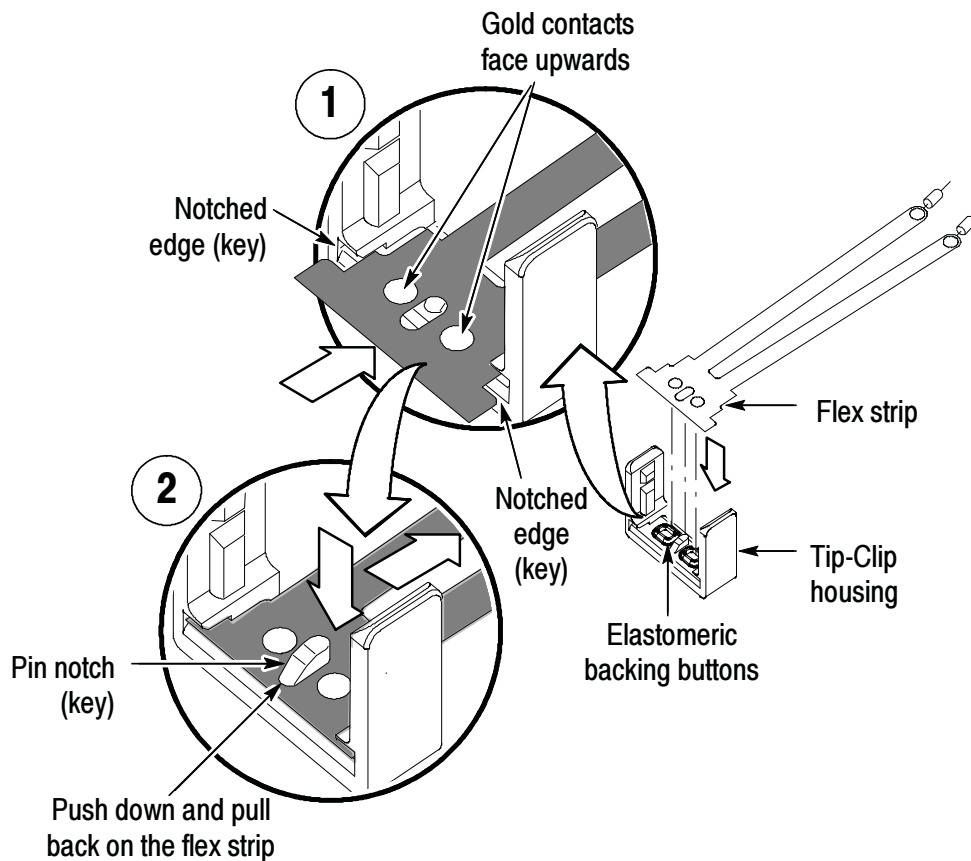

Figure 19: Reinstalling the flex strip
1. Ensure that the two elastomeric backing buttons are in place in the Tip-Clip housing. Position the flex strip and Tip-Clip housing as shown in 1 of Figure 19.
2. Reinstall the flex strip as shown in 2 of Figure 19. Check that the flex strip is seated evenly against the Tip-Clip housing.